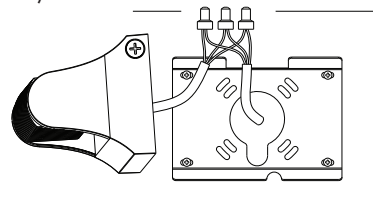

Figure 2
2. Connect the wires accordingly & secure the ends using UL listed wire nuts or connectors. (Figure 2)